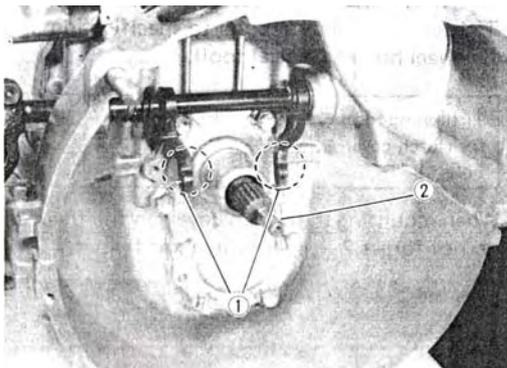

FIG.11-31
Apply grease to release arm end (1) and input shaft end (2) (FIG.11-31)